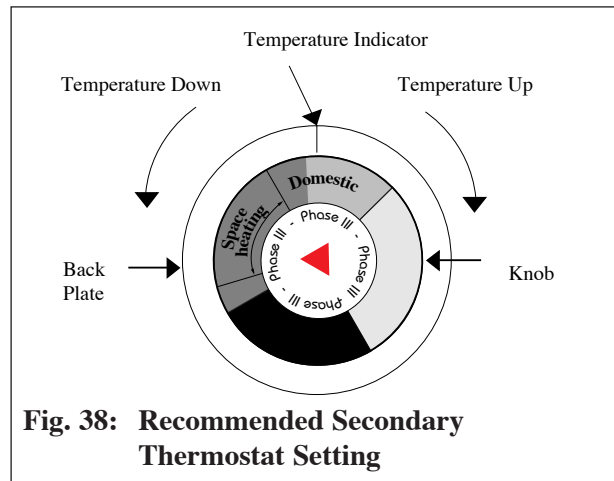

Fig. 38: Recommended Secondary Thermostat Setting
Set the thermostat knob as shown in Figure 38 page 54.
Studies have indicated that dangerous bacteria can form in the potable water distribution system if certain minimum water temperatures are not maintained. For prevention of this, it is recommended that the Secondary Thermostat be set as shown in Figure 38 and maintained at 130°F to 140°F.
- Set the thermostat knob as shown in Figure 38.
- Primary and Secondary Thermostat properly set as shown in Figure 38 and 39 page 54.